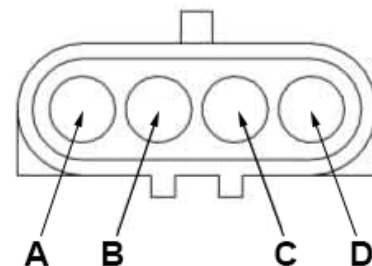

Figure 23
5. Attach multimeter leads to pins "A" and "B" of limit switch connector (see Figure 23). This contact is normally closed and opens when pressed.
7. Attach multimeter leads to pins "B" and "C" of limit switch connector (see Figure 23). This contact is normally open and closes when pressed.